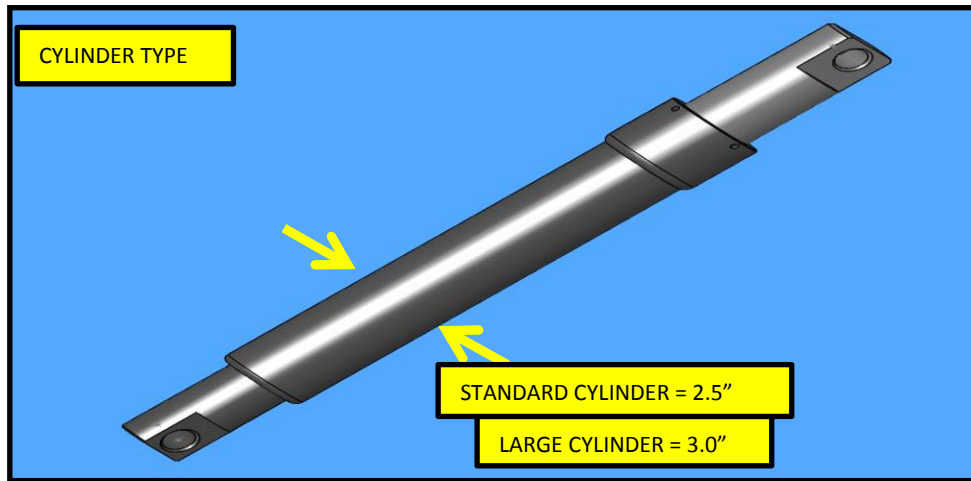

FIG. 8-1
- If your vehicle is equipped with large lift cylinders follow step 15. Refer to FIG. 8-1
14. If your vehicle is equipped with standard lift cylinders follow step 16. Refer to FIG. 8-1